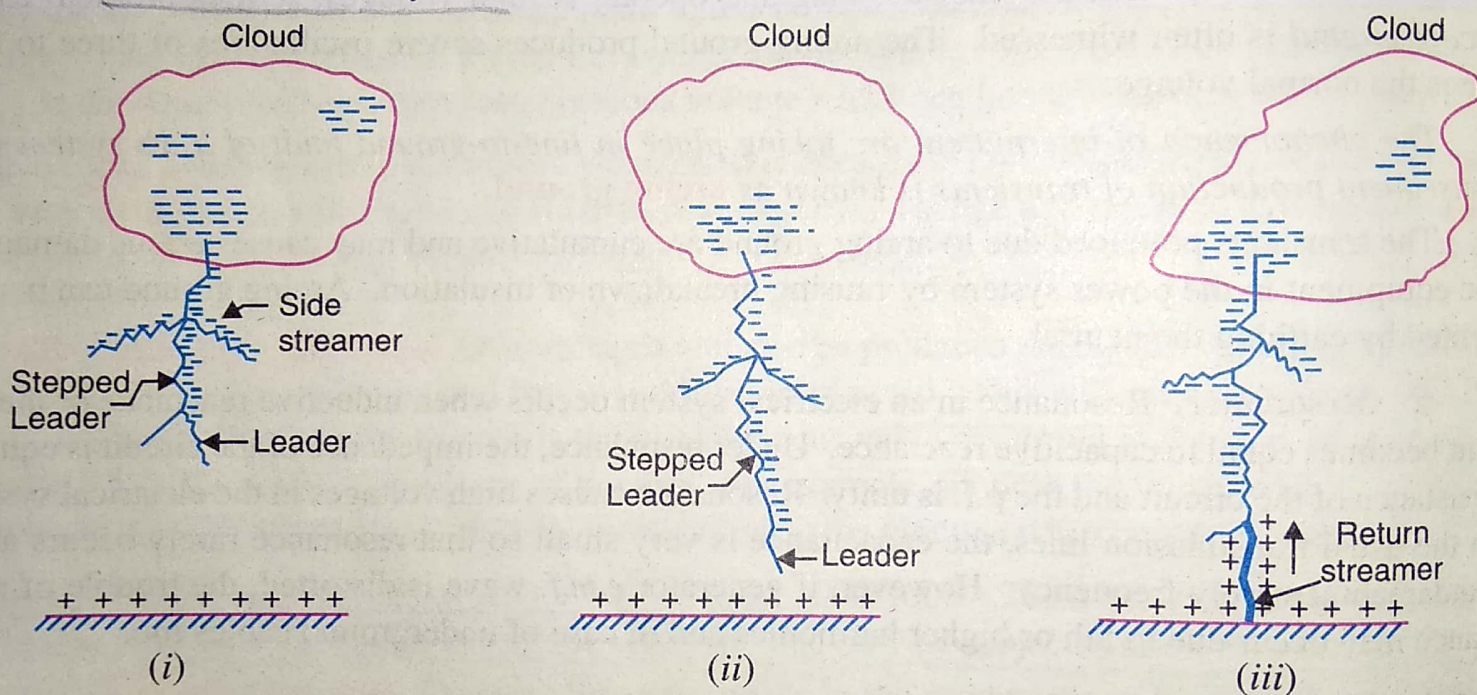

Fig. 24.4
- (i) As soon as the air near the cloud breaks down, a streamer called *leader streamer* or *pilot streamer* starts from the cloud towards the earth and carries charge with it as shown in Fig. 24.4 (i). The leader streamer will continue its journey towards earth as long as the cloud, from which it originates feeds enough charge to it to maintain gradient at the tip of leader streamer above the strength of air. If this gradient is not maintained, the leader streamer stops and the charge is dissipated without the formation of a complete stroke. In other words, the leader streamer will not reach the earth. Fig. 24.4 (i) shows the leader streamer being unable to reach the earth as gradient at its end cloud not be maintained above the strength of air. It may be noted that current in the leader streamer is low (<100 A) and its velocity of propagation is about 0.05% that of velocity of light. Moreover, the luminosity of leader is also very low.
- (ii) In many cases, the leader streamer continues its journey towards earth [See Fig. 24.4 (ii)] until it makes contact with earth or some object on the earth. As the leader streamer moves towards earth, it is accompanied by points of luminescence which travel in jumps giving
- (iii) The path of leader streamer is a path of ionisation and, therefore, of complete breakdown of insulation. As the leader streamer reaches near the earth, a *return streamer* shoots up from the earth [See Fig. 24.4 (iii)] to the cloud, following the same path as the main channel of the downward leader. The action can be compared with the closing of a switch between the positive and negative terminals; the downward leader having negative charge and return streamer the positive charge. This phenomenon causes a sudden spark which we call lightning. With the resulting neutralisation of much of the negative charge on the cloud, any further discharge from the cloud may have to originate from some other portion of it.